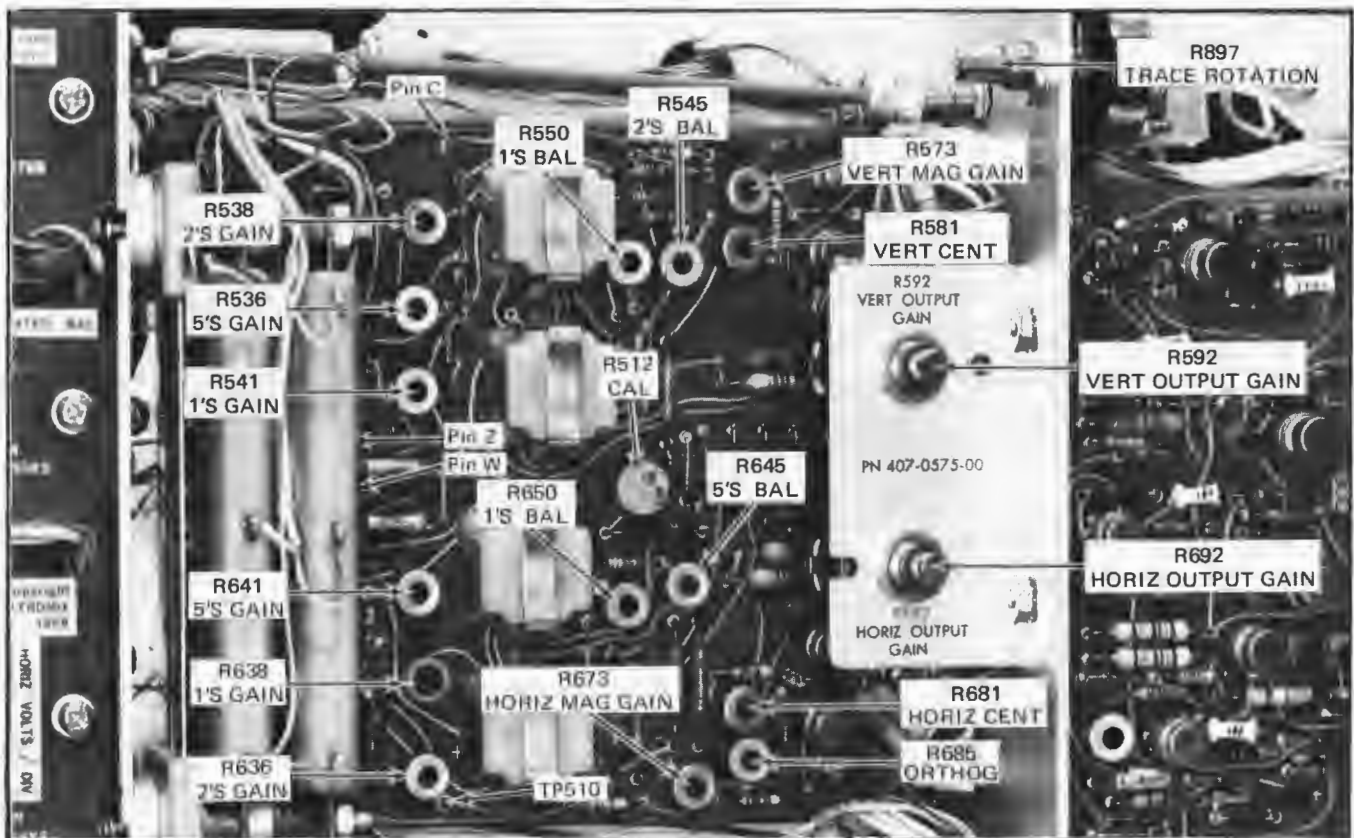

Fig. 5-2. DISPLAY AMP circuit board: Location of voltage checks and adjustments in steps 2, 3 and 8 through 14.
a. Connect the positive lead of the DC voltmeter to TP510 on the DISPLAY AMPLIFIER circuit board (see Fig. 5-2).
c. ADJUST-R512, CAL adjustment (see Fig. 5-2), if the voltage is not correct.
i. Connect the negative lead of the DC voltmeter to pin W and the positive lead to pin Z of the DISPLAY AMP circuit board (see Fig. 5-2). (Set the DC voltmeter for measuring a negative voltage.)
h. ADJUST—R897, TRACE ROTATION adjustment on a chassis bracket on the operator's right of the instrument (see Fig. 5-2) if the trace is not parallel.
k. ADJUST—R685, ORTHOGONALITY adjustment, on the DISPLAY AMP circuit board (see Fig. 5-2) if the trace is not parallel.